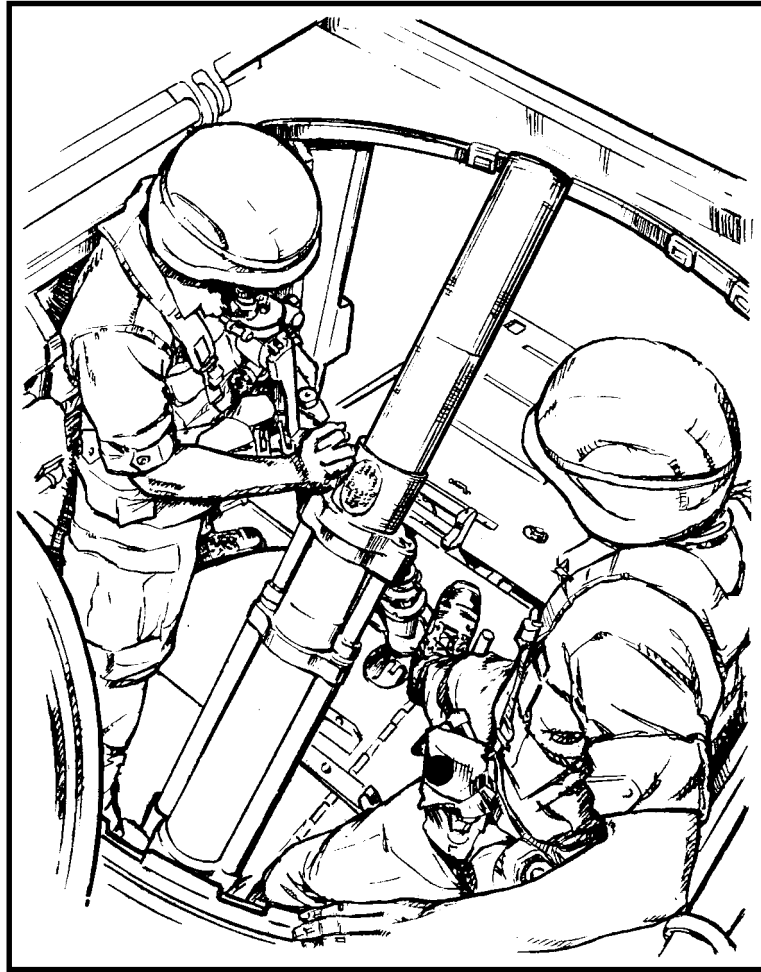
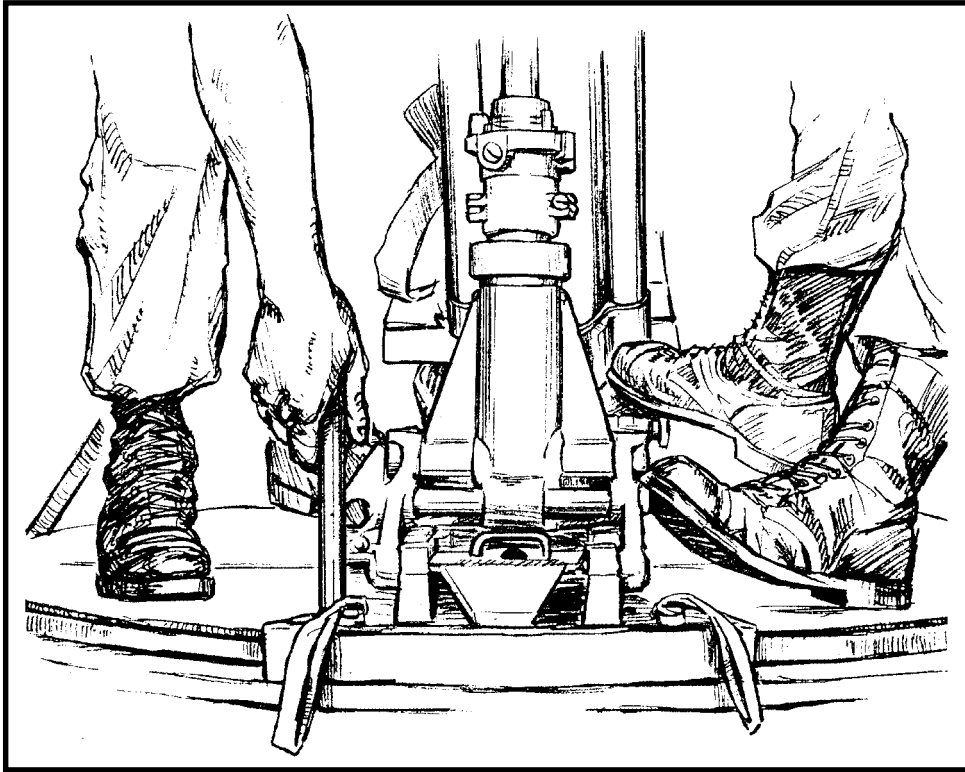

Figure 6-22. Positions for traversing the turntable.
Figure 6-23. Assistant gunner locking the turntable traversing handle.
(3) The assistant gunner pushes down on the turntable traversing handle latch with his left foot. He then raises the handle to the unlocked position and assumes the following position: right foot on the standard support, left foot on the mortar tube socket assembly, right and left hands on the rim of the mortar hatch cover, and body braced on the fuze rack (Figure 6-22, page 6-30).
(4) The gunner assumes the following position: right foot near or on the mortar tube socket assembly, left foot off the turntable, right hand on top of the coupling and sight mount assembly, and left hand on the traversing crank. At the same time, he looks through the telescope of the M53- or M64-series sightunit (Figure 6-22).
(5) The gunner commands PUSH. At this time the assistant gunner pushes the turntable with his right foot; and the gunner pushes with his right foot and pulls with his right hand.
(6) When the gunner has the approximately correct sight picture, he commands HOLD. Upon confirming this sight picture, he commands LOCK.
(7) The assistant gunner locks the traversing lock handle with his right hand (Figure 6-23) or right foot. (The gunner does not attempt to finalize his sight picture before the assistant gunner locks the turntable.)